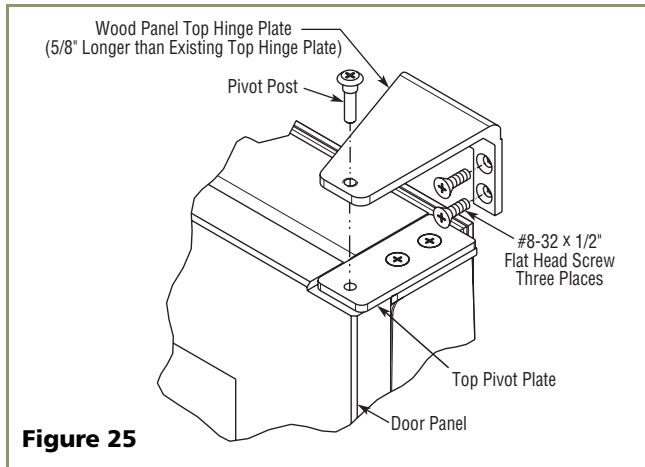

Figure 25
2. Install the new Replacement Top Hinge onto the unit (see **Figure 25**).